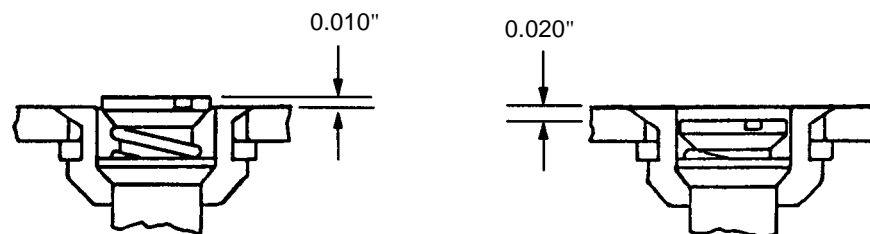

Figure 13 - 4002 Series Stud Head Height
- 6.7 When measured from the top of the grommet, the head height of 4002 series studs, when down and locked, shall be +0.010 to -0.020" (see Figure 13).